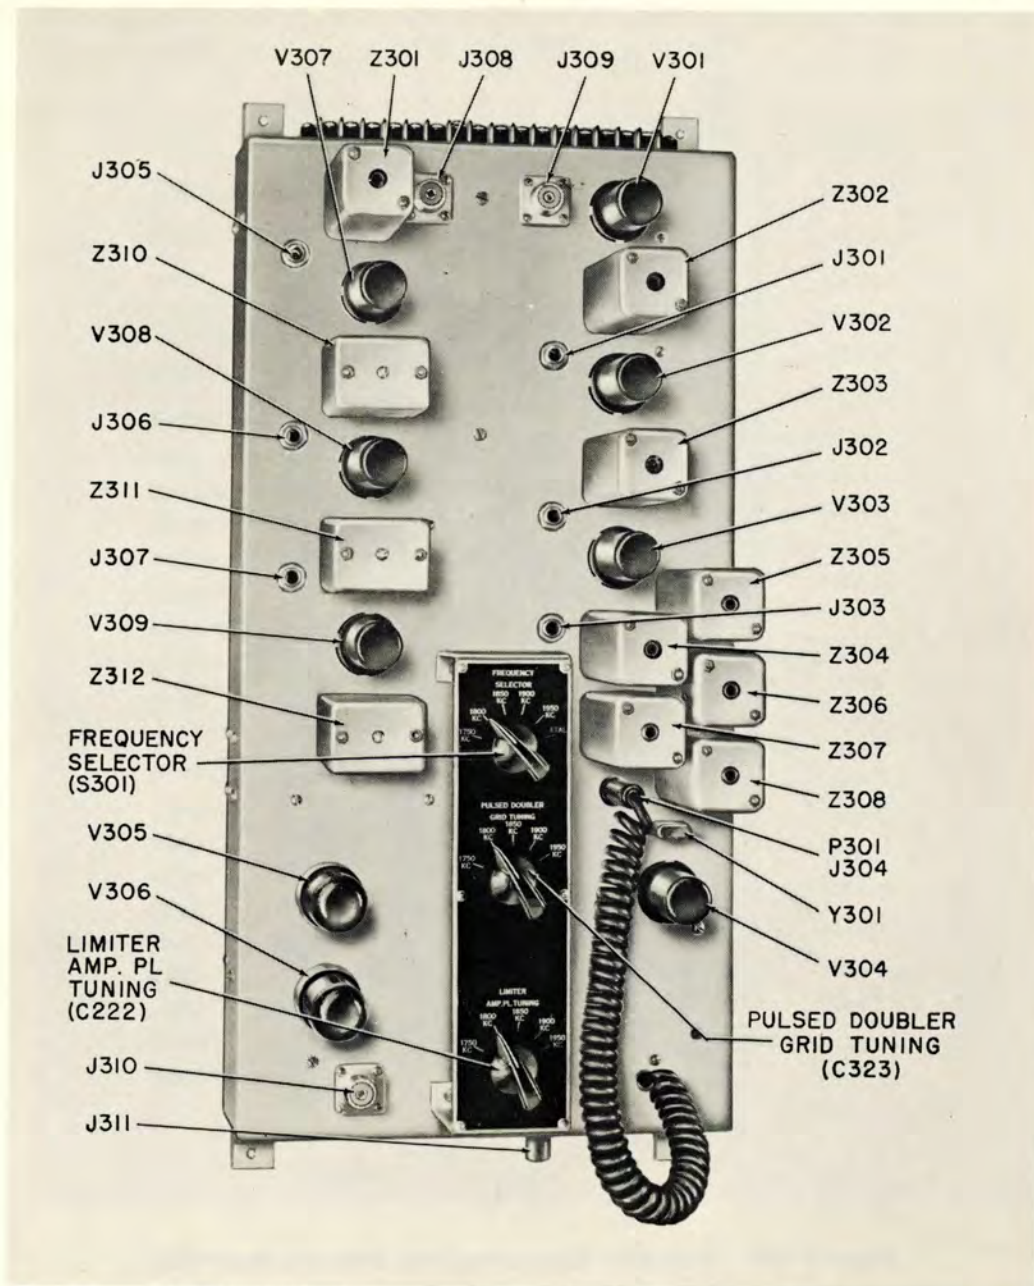

Figure 7-29. Frequency Generating Unit, Top or Front View
factory adjustments should not be disturbed. In the event of trouble which is localized to a frequency generator, tubes and other components should first be eliminated as possible causes of the trouble before realignment is attempted. Alignment will not be required if crystal operation is used exclusively. Alignment of stages used for crystal operation is described in Section 3, paragraph 9i (2). If it is an absolute certainty that realignment is necessary, follow the procedure outlined below. Refer to figures 7-29 and 7-30 for location of components.